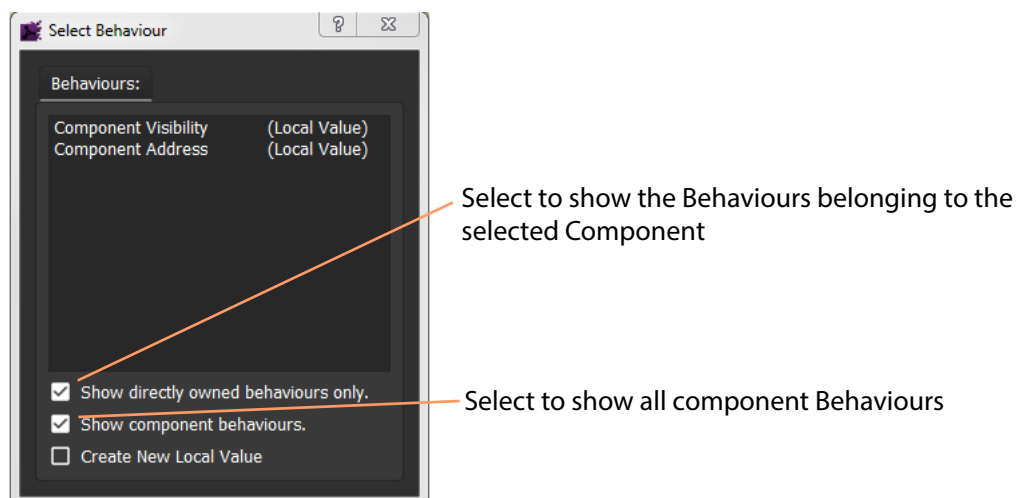

Fig. 4-49: Select Source Behaviour Dialog
The **Select Behaviour** dialog is shown. See Figure 4-49.
- 5 Click on the 'Component Visibility' Behaviour item in the resulting list in the dialog. See Figure 4-49.